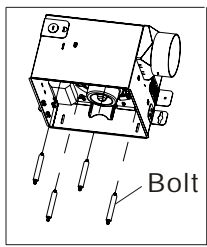

Fig.18
3. Screw the bolt into motor plate. (Fig.18)